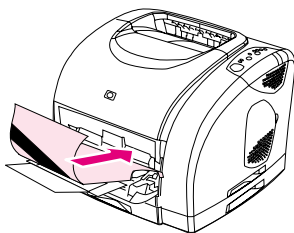

Figure 13.
- 5 Remove the page that printed and load it face-down into tray 1 (see figure 13).